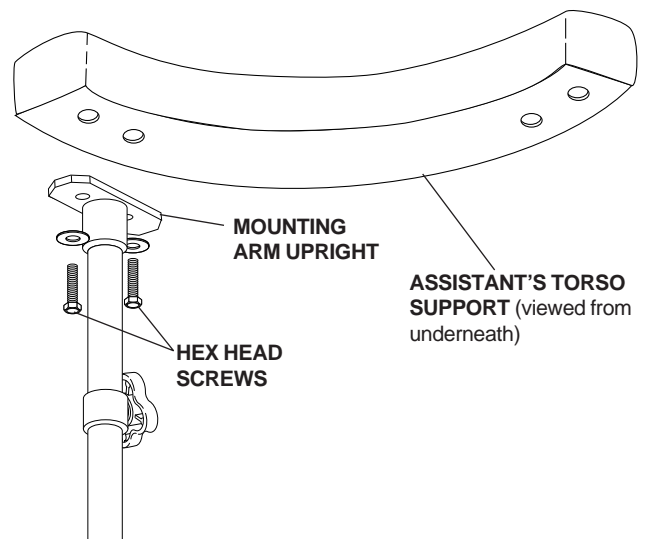

FIGURE 1
- Install the two screws that secure the assistant's torso support upholstery to the mounting arm upright (see Figure 1). Tighten the two screws.